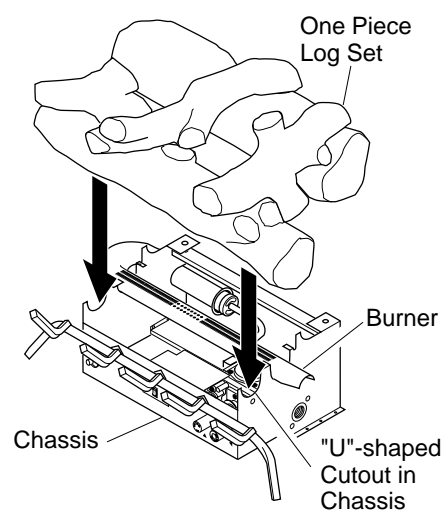

Figure 18 - Installing Heat Majic™ One-Piece Log Set
1. Place one-piece log set on grate to fit as illustrated in Figure 18. Make sure bottom of front log is in front of "U"-shaped cutout in center of chassis. Log will fit securely on chassis.